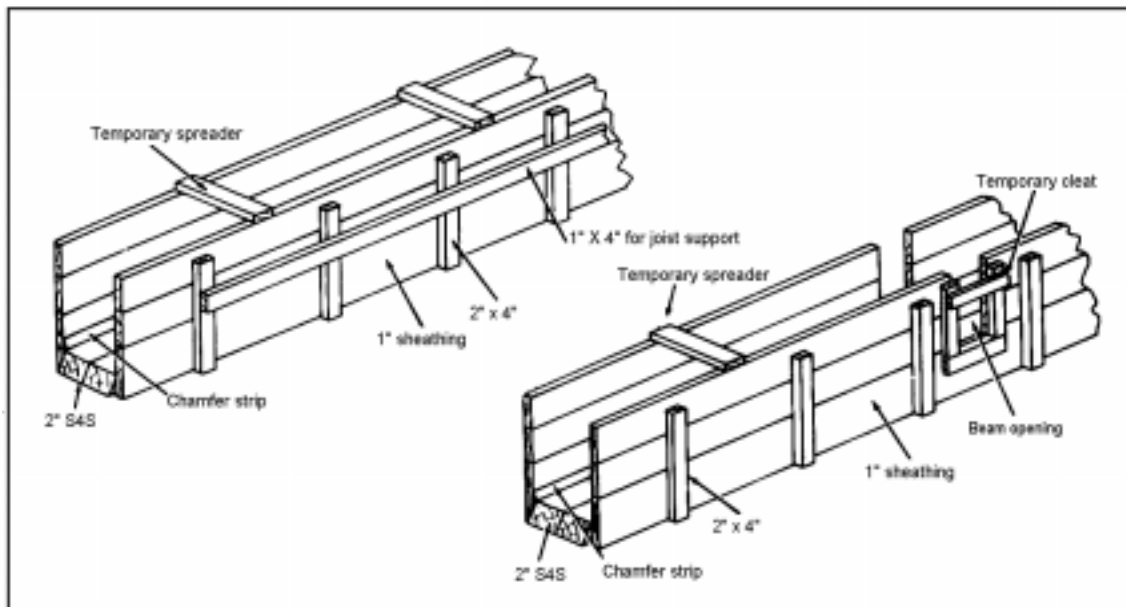

Figure 051-236-1165-2
- (1) Use a large quantity of shoring to offset the downward hydrostatic pressure placed on the form bottom. Commercial adjustable-metal forms are available and are probably the best and easiest type of shoring to use on beam and girder forms (Figure 051-236-1165-2). Heavy timber such as 4- by 4-inch lumber is normally available and works fine.